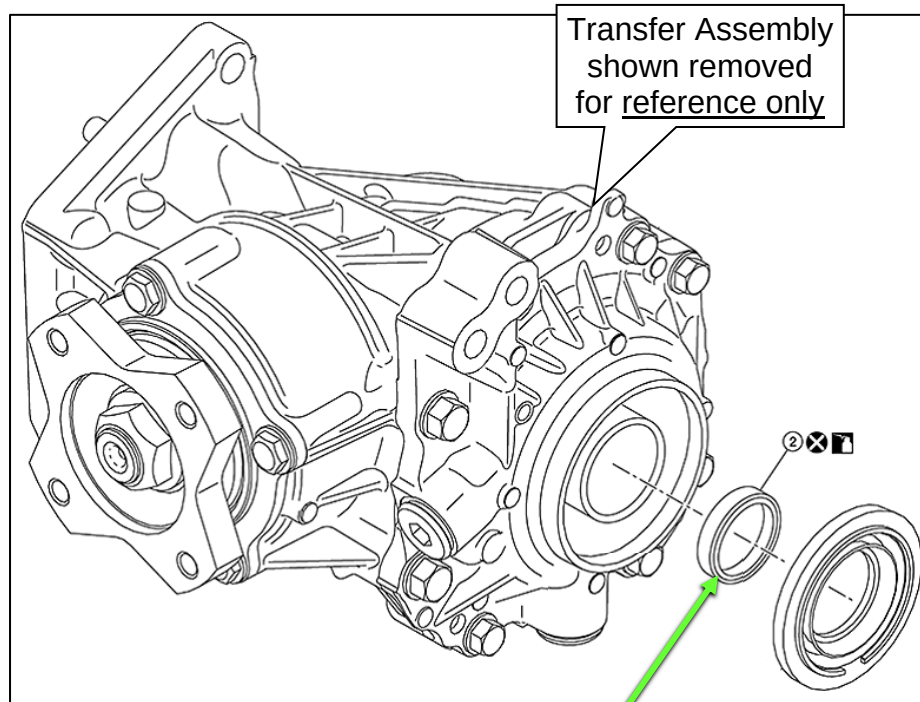

Figure 7
- Figure 7 only shows the Transfer Assembly removed for reference only.